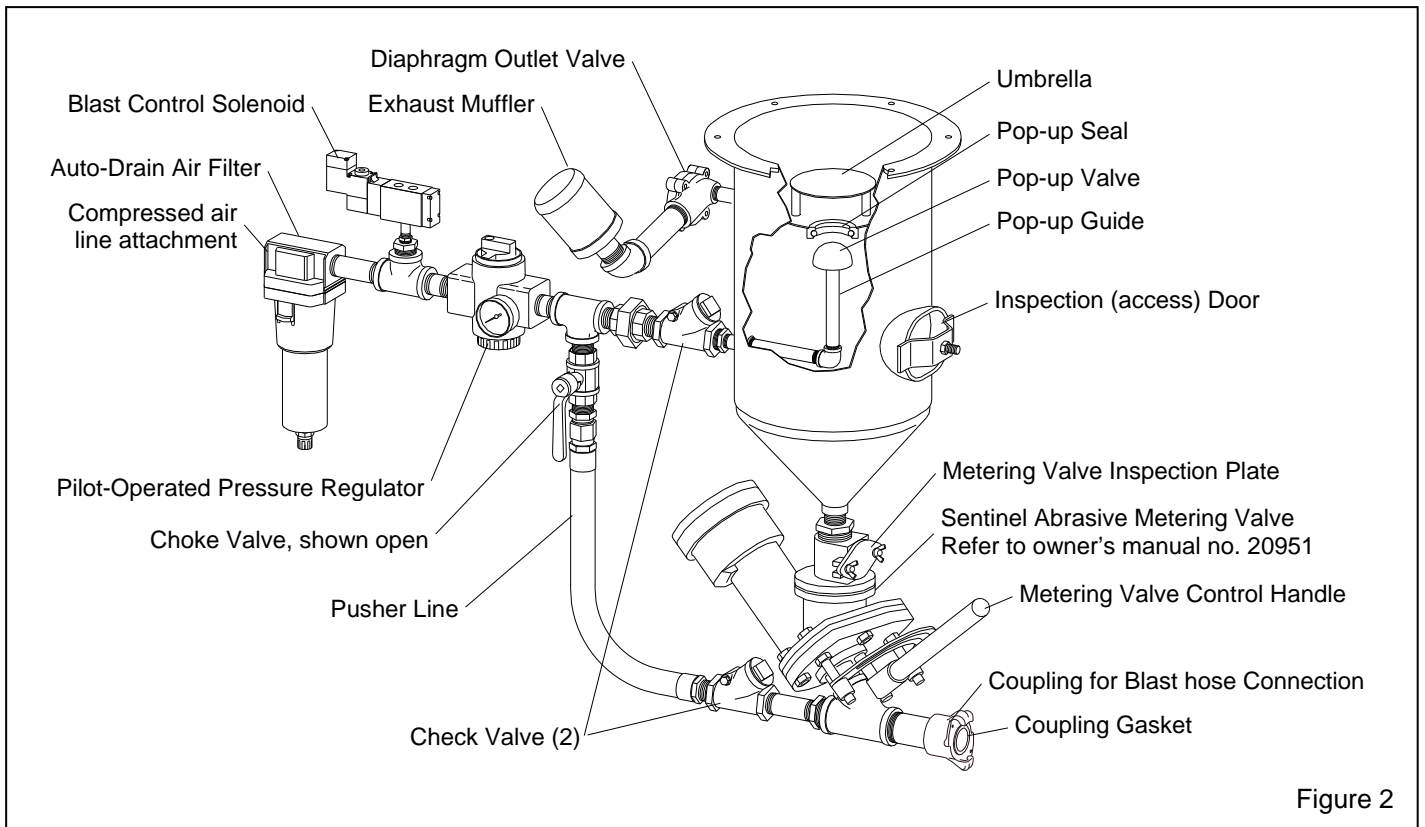

Figure 2
Refer to Figure 2 for blast machine components.
**1.5.1** Temporarily closing the choke valve while blasting clears minor blockage caused from bridging and damp abrasive. Always blast with the choke valve fully open; the valve is open is when the handle is vertical and aligned with the piping as shown in Figure 2.